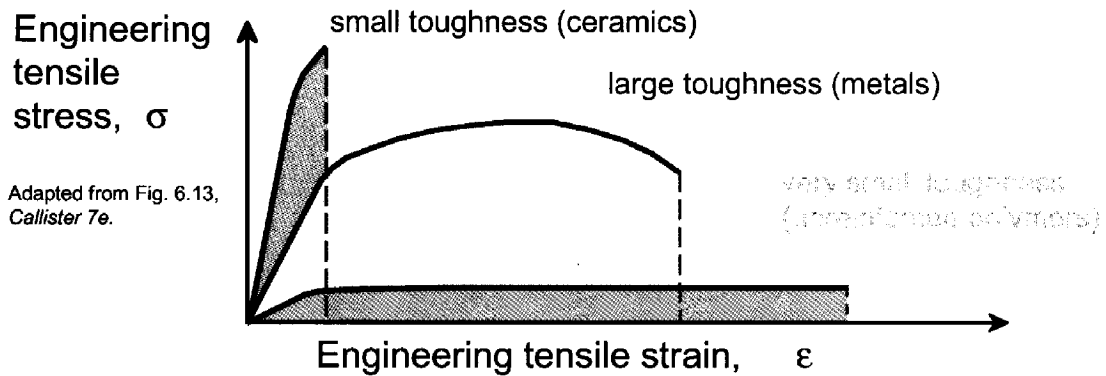

Figure 4.
b) Based on different types of bonding between atoms, explain the stress-strain behavior of ceramics, metals and unreinforced polymers shown in Figure 4. Which one of the three material types you would choose to fabricate a hammer and why? (2p)